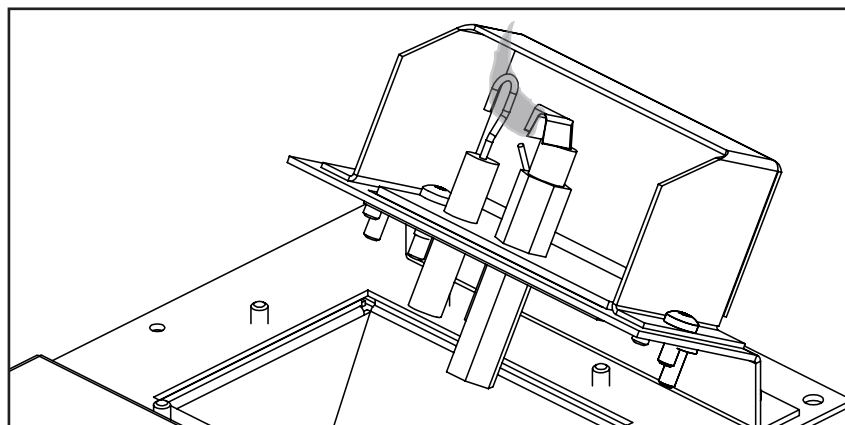

Figure 12: Flame Sensor Coverage
12. Relight the pilot and confirm the flame properly covers the flame sensor hook (see Figure 12). Should the pilot require adjustment, turn the adjustment screw clockwise to decrease or counterclockwise to increase until the correct flame is achieved.